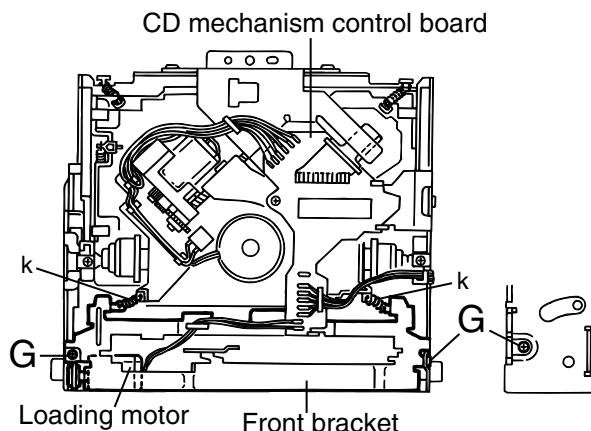

Fig.12
■Removing the loading motor (See Fig.12 to 14)